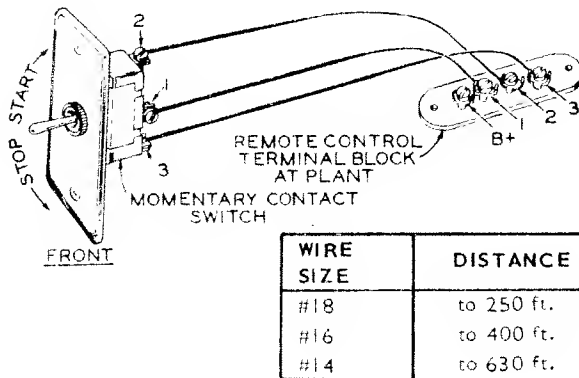

FIGURE 6. REMOTE CONTROL WIRING
For remote control of starting and stopping, use three wires to connect a remote switch (SPDT, momentary contact, center-off type) to the terminal block marked B+, 1, 2, 3 in the set control box (Figure 6). Use correct wire size according to switch distance from set.
2. **Remote Start-Stop Switch:** For starting and stopping from truck cab or other point, install a switch as described for a standard unit (see Figure 6).